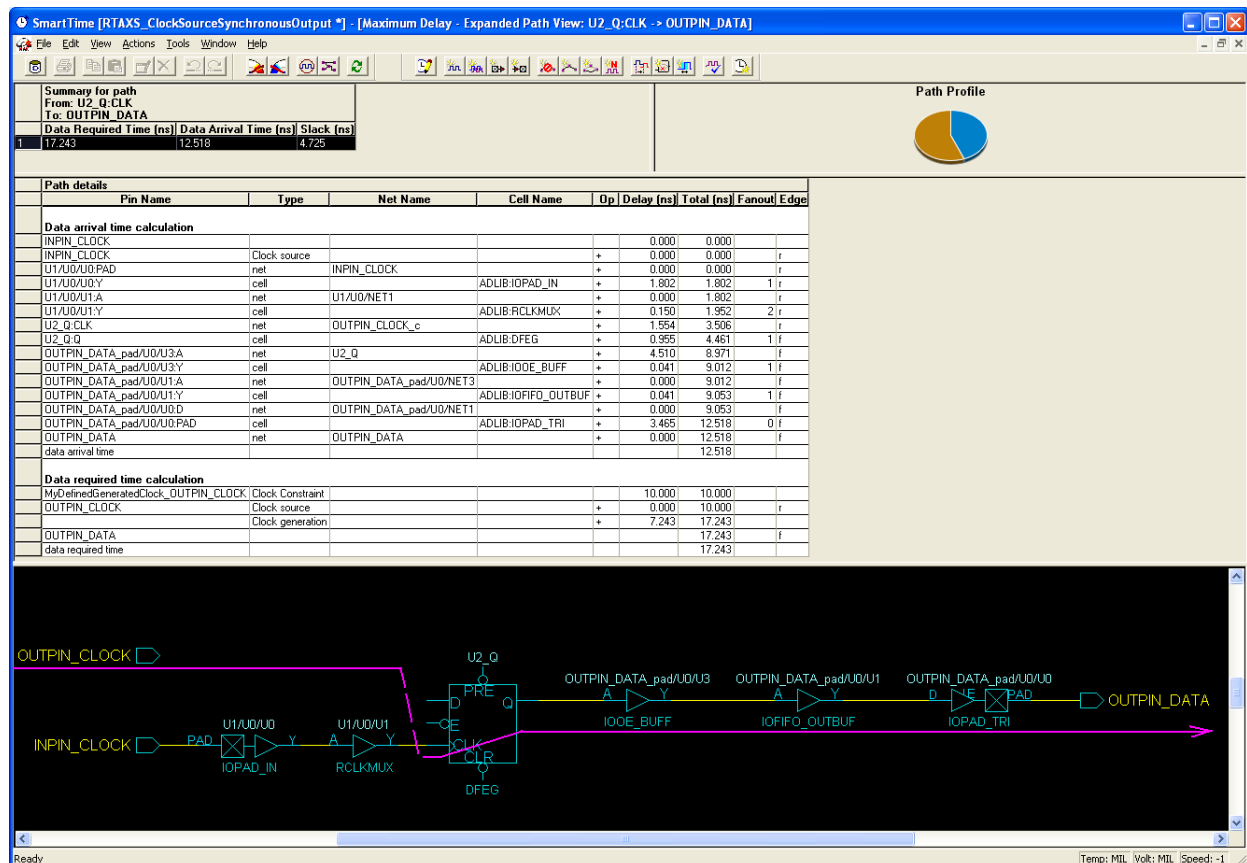

Figure 10 • Designer SmartTime Tool: Expanding the Path
In Figure 10 on page 9, the path is shown at the bottom of the screen, and the path that we are analyzing is highlighted with a pink arrow.
**Note:** The path that we are analyzing in this source-synchronous clock design, is from the output pin named “OUTPIN\_DATA” with respect to the output pin named “OUTPIN\_CLOCK”. However, since the clock port “OUTPIN\_CLOCK” does not actually drive the clock port of the flip-flop that generates the “OUTPIN\_DATA” output pin signal, there is no actual logic that starts at the pin “OUTPIN\_CLOCK” that drives the output “OUTPIN\_DATA”, and that is why there is no logic shown that starts at the port “OUTPIN\_CLOCK” in Figure 10. However, we are successfully analyzing timing on “OUTPIN\_DATA” versus “OUTPIN\_CLOCK”.